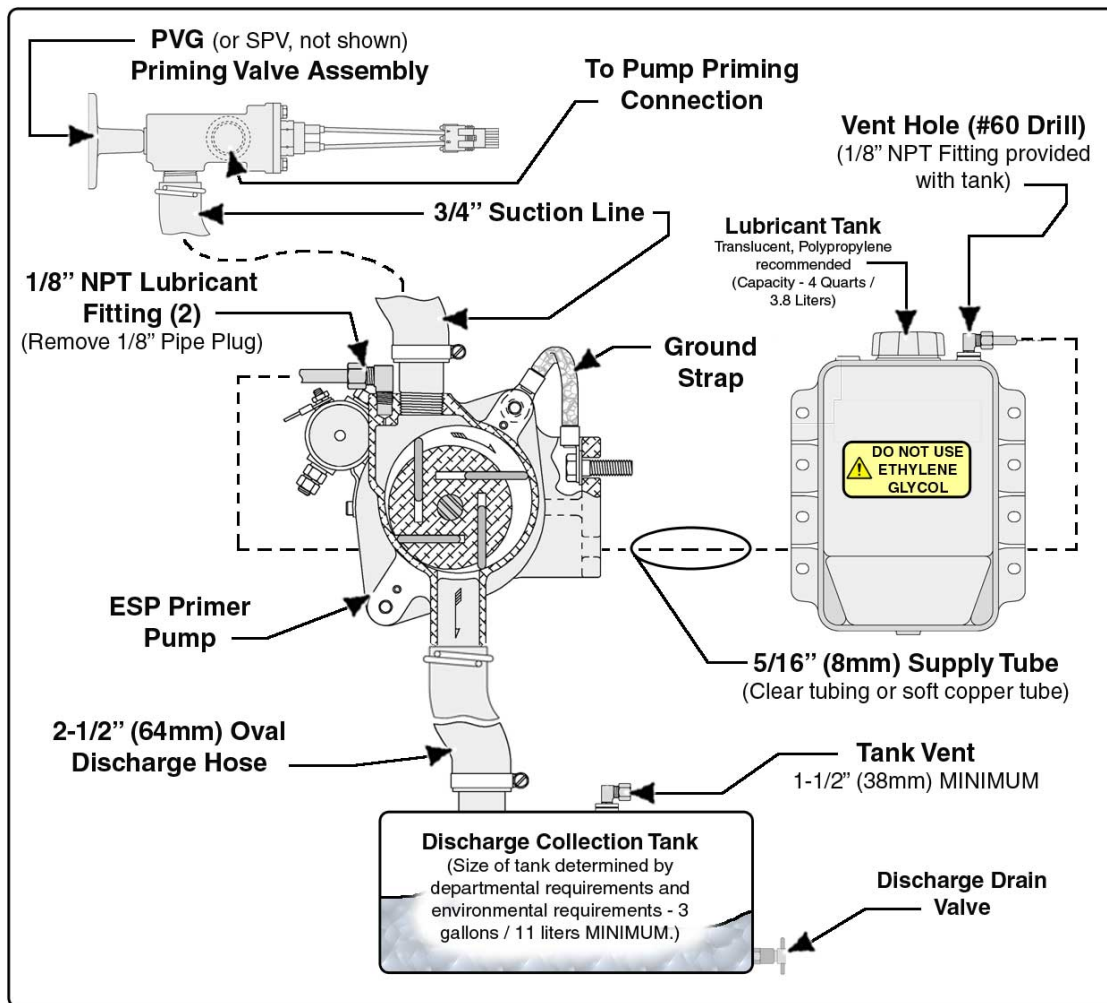

Figure 3: “Typical ESP Lubricated Priming System Layout”
See Figure 3: “Typical ESP Lubricated Priming System Layout” on page 4.
3. Remove the 1/8” NPT pipe plug in the top of the primer pump and install one 1/8” NPT x 5/16” (8 mm) tube fitting. (See Figure 3: “Typical ESP Lubricated Priming System Layout” on page 4.) Use appropriate thread sealant.
5. Run tubing (5/16” / 8 mm) from the lubricant storage tank to the primer pump fitting and secure the tubing (tubing clamps). (See Figure 3: “Typical ESP Lubricated Priming System Layout” on page 4.)
7. It is recommended to install a separate discharge collection container (tank), minimum 3 gallons (11 liters), to collect all discharged fluid during priming in accordance with your departmental and/or local environmental regulations. (See Figure 3: “Typical ESP Lubricated Priming System Layout.”)